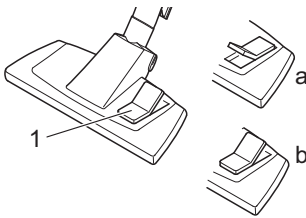

Fig.13
5. Adjust the carpet/hard floor switch (Fig. 13/1) depending on the type of flooring:
- **Hard floor (Fig. 13/a)**
- **Carpet (Fig. 13/b)**